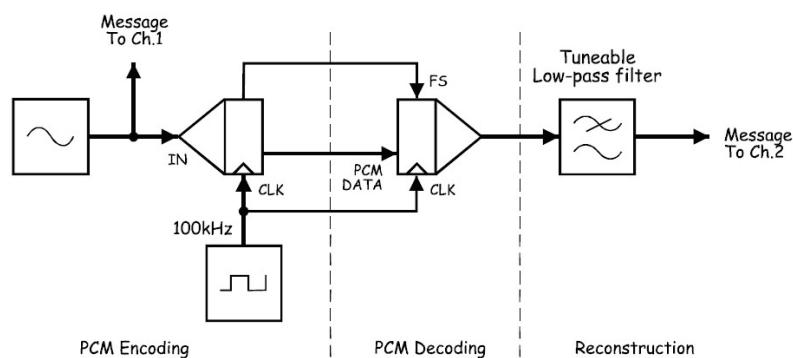

Figure 20: Modified PCM decoder.
- Modify the setup as shown in Figure 20 below.